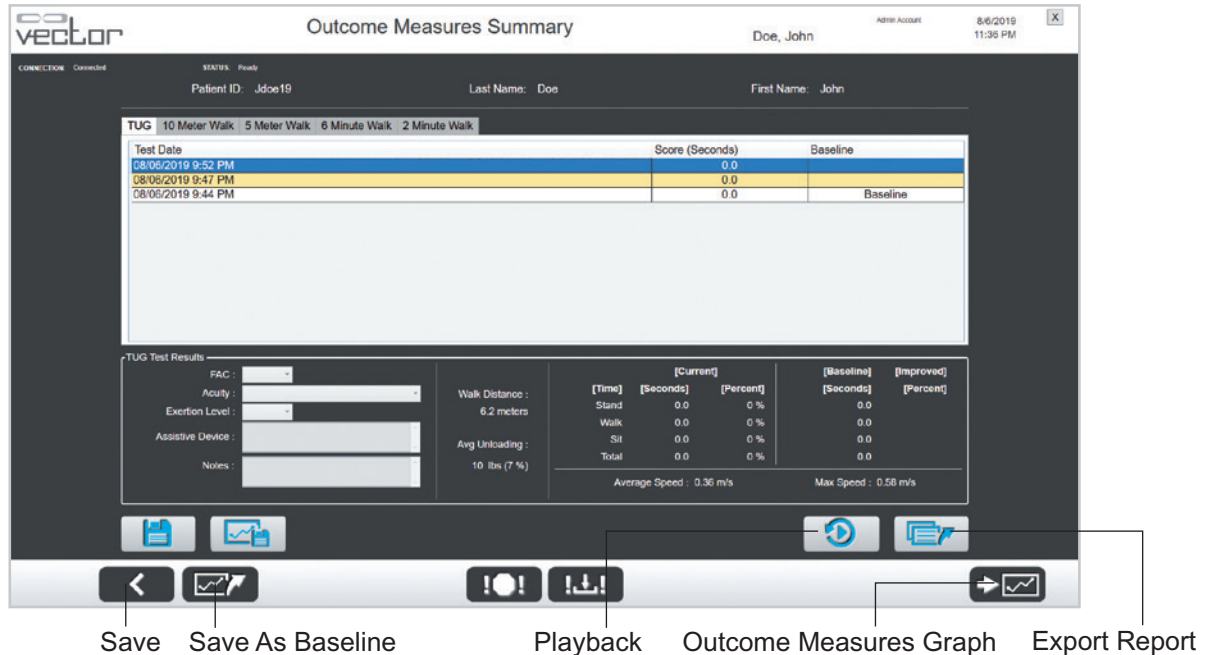

Figure 8-10: Outcome Measures Summary Screen
12. From the Patient Training Summaries screen, select a patient from the Known Patients list and press the Outcome Measures Summary button. See Figure 8-10.
13. The Outcome Measures Summary screen displays list of saved test runs, organized under tabs for TUG, 10 Meter Walk, 5 Meter Walk, 6 Minute Walk, and 2 Minute Walk. Navigate to a tab and select a single test run to view test results. See Figure 8-10.